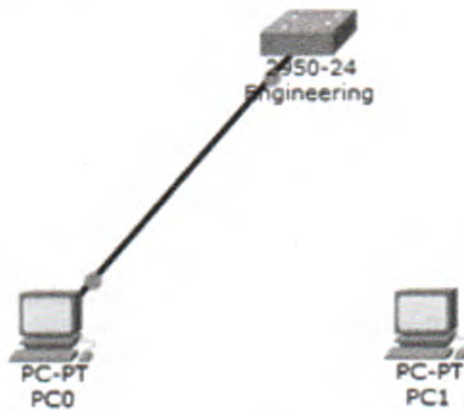

Figure 6.3: Topology to Demonstrate Port-Security
1. Connect the topology shown in Figure 6.3